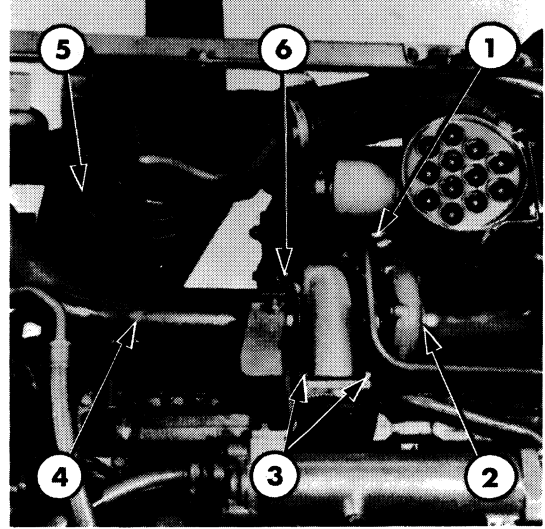

Figure 8
5. To remove the turbocharger remove the exhaust pipe clamp, the turbocharger-to-intake manifold tube clamp, the air intake boot clamp, and the turbocharger mounting nuts, Figure 8.